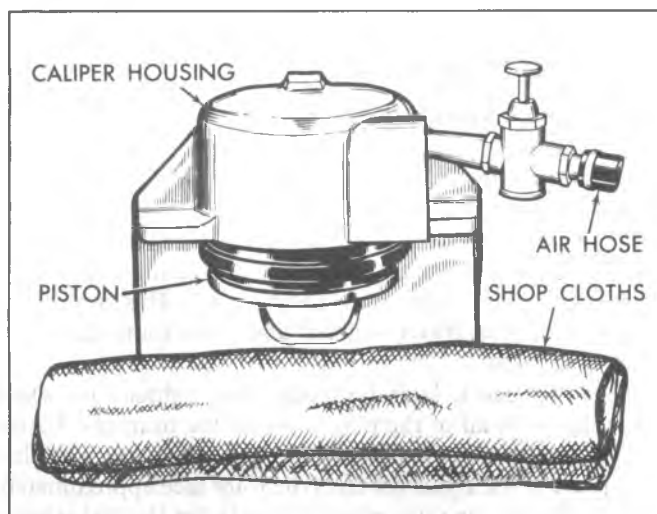

Fig. 5-40--Removing the Caliper Piston
3. Using clean shop cloths, pad the interior of the caliper and remove the piston by directing compressed air into the caliper inlet hole (fig. 5-40).